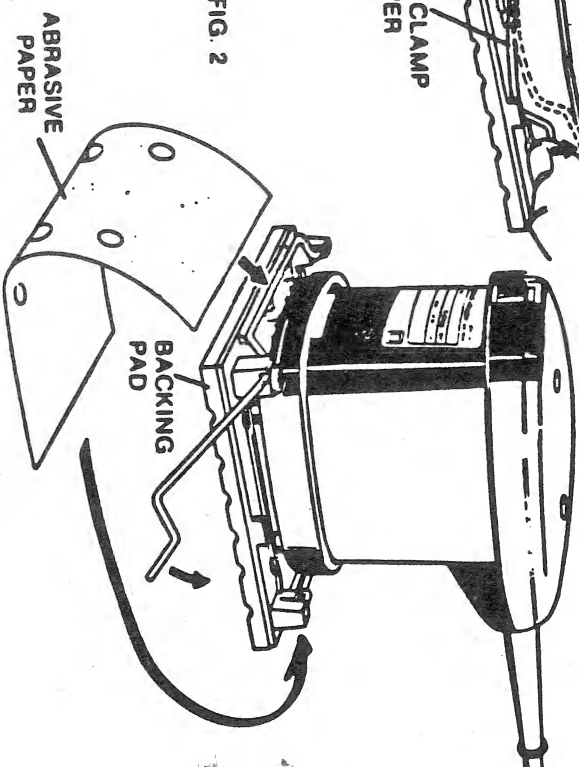

FIG. 2
3. Insert abrasive paper under the clamp, pull up on lever and lock into place. (Fig. 2)